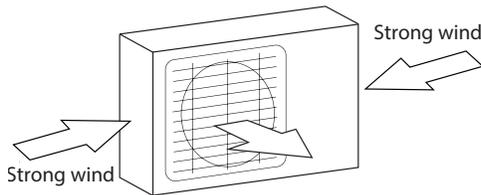

Fig. 6.1
- ✔ If the location is exposed to strong winds (for example: near a seaside), the unit must be placed against the wall to shelter it from the wind. If necessary, use an awning. (See Fig. 6.1 & 6.2)